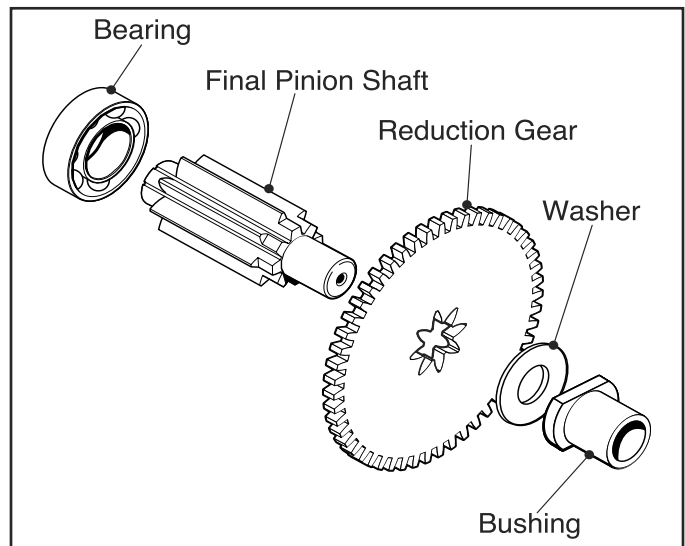

Fig. 11, Final Pinion Assembly
2. Inspect the Final Pinion Shaft and the Reduction Gear for scoring, pitting, discoloration and chipped or broken teeth. (Fig. 11)